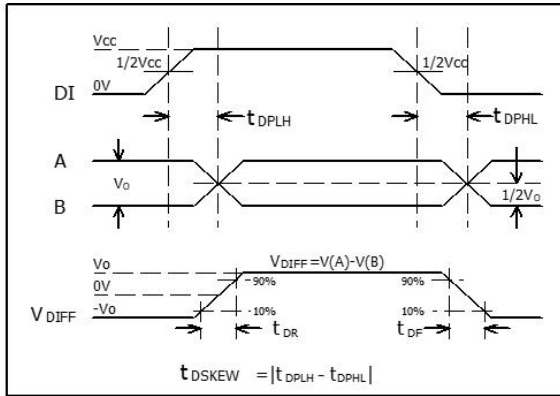

Figure 6 Driver Propagation Delays
- (6) Test circuit is shown in Figure 6